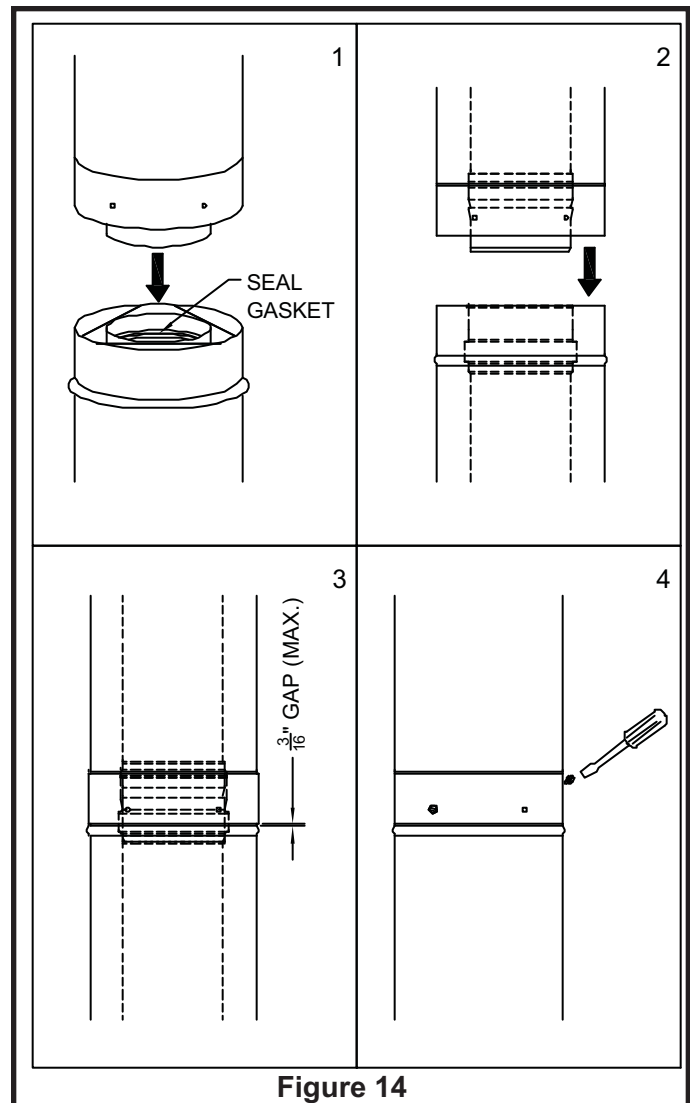

Figure 14
- 6) Continue to connect vent sections and fittings as appropriate for the installation. Vent must be installed so that male end of the vent is directed towards the vertical termination (label on vent pipe pointed towards the roof). This allows for proper draining of condensed vapor as the water heater is operating. Each joint is secured using sheet metal screws provided (See **Figure 14**).